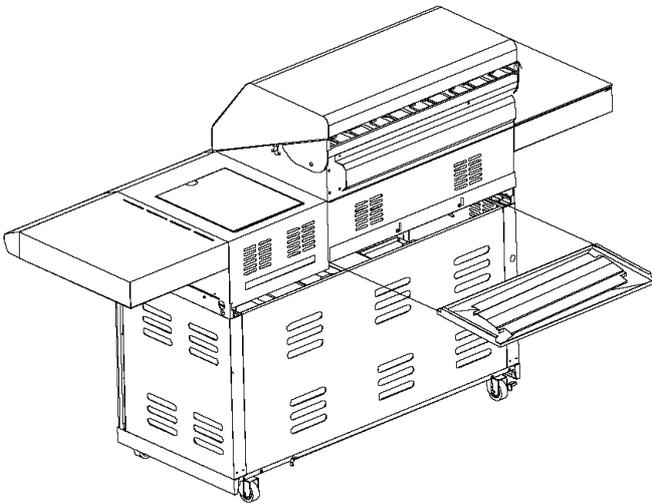

Figure 2
- Insert the Grease Draining Tray by sliding Side Tabs of Tray over the side rails beneath the Grill Bowl. Reposition Rear/Upper Bowl Panel. (See figure 2).